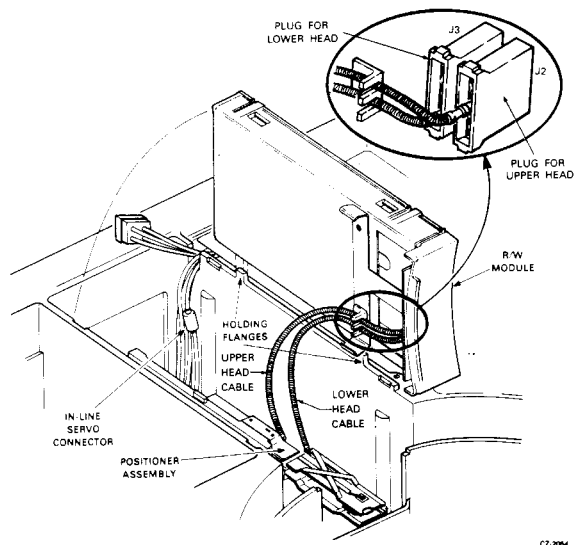

Figure 9-3 Positioner and Read/Write Module Box Assembly
7. Disable servo drive to the carriage by disconnecting the servo in-line connector (Figure 9-3).
7. Disable servo drive to the carriage by disconnecting the in-line connector (Figure 9-3).